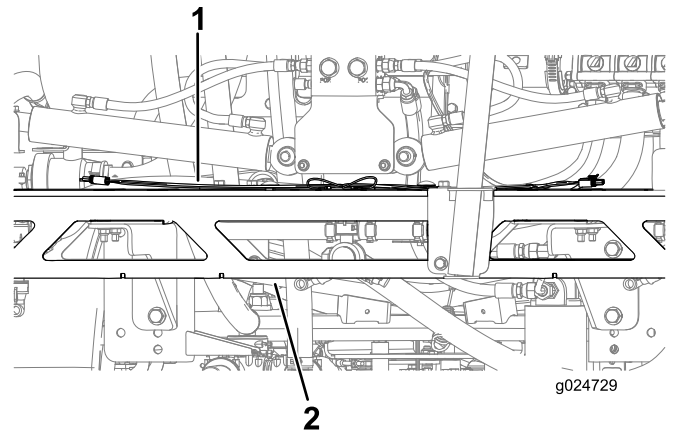

Figure 12
- Route the wiring harness along the boom-frame channel (Figure 12).